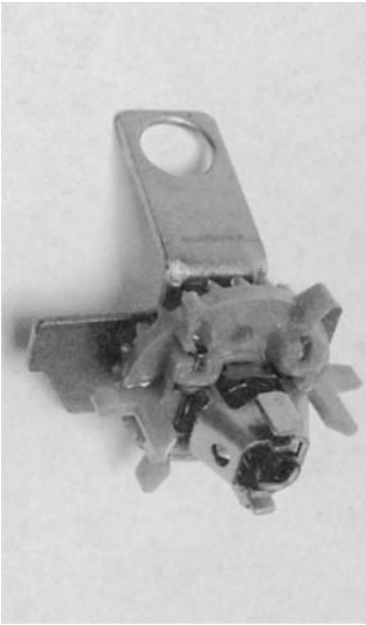

FIG. 8-10. *A camshaft-driven slinger provides primary lubrication in traditional Briggs fashion.*
16. Undo the flange holddown cap screws and separate the flange from the block casting with a soft mallet. Carefully withdraw the flange, which should slip easily off the crankshaft. The flyweight/oil-slinger assembly might drop into the flange (Fig. 8-10) but the camshaft should remain suspended in its magneto-side bearing to establish the original positions of the timing marks.